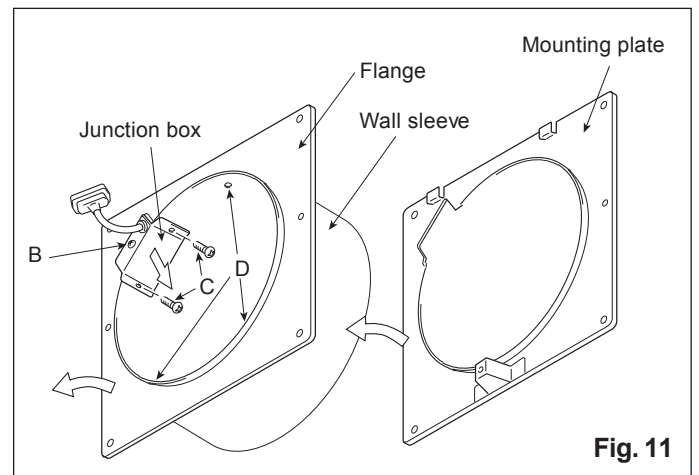

Fig. 11
3. Remove the junction box from the wall sleeve by removing two screws (C). (Fig. 11)
4. Remove the junction box cover by removing screw (B).
5. Remove the screws (D) and replace the wall sleeve flange with the mounting flange. (The mounting plate face should align with the end of the wall sleeve which is protruding from indoor side.)